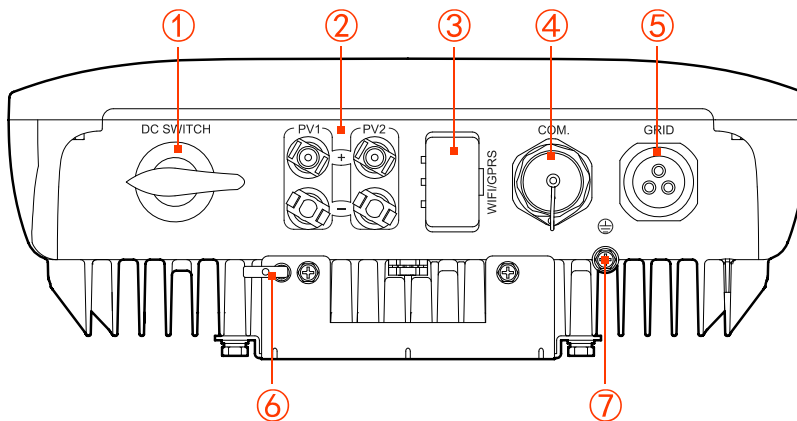

Figure2-5 Bottom view
The external terminals are all located in the bottom of the inverter, including PV input, AC output, communication port and DC switch, etc, as shown in Figure2-5.
DC switch (as shown in Figure2-5 ①) is the connection switch of inverter and PV array. When the inverter works normally, the DC switch must be ON. During installation and wiring, the DC switch must be OFF. Before maintenance, the DC switch must be OFF for 20 minutes, and measure the voltage of DC busbar by multimeter, only when the voltage less than 10V, the maintenance can be done.